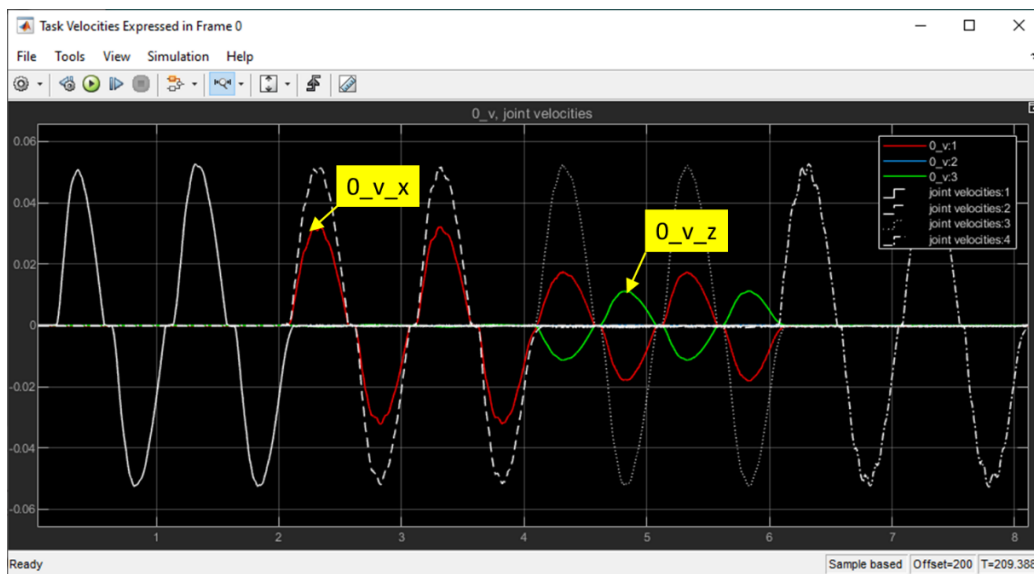

Figure 2 – Sample result for position A showing loss of velocity along the Y axis when expressed in frame 0
- Open the scopes labelled **Task Velocities Expressed in Frame 0** and **Task Velocities Expressed in Frame 4**. With the arm in position A, use the manual switch placed before the Disturbance subsystem to move the joints one by one. The scopes will display the applied velocity disturbances, as well as the X, Y, Z components of the end-effector's velocity when expressed in frames 0 and 4. Sample result shown in Figure 2 indicates that when all four of the joints have been actuated, the end-effector only moves along the X (red) and Z (green) axes when expressed in frame 0. In other words, movement along the Y axis is lost. Use Table 1 to record your results.